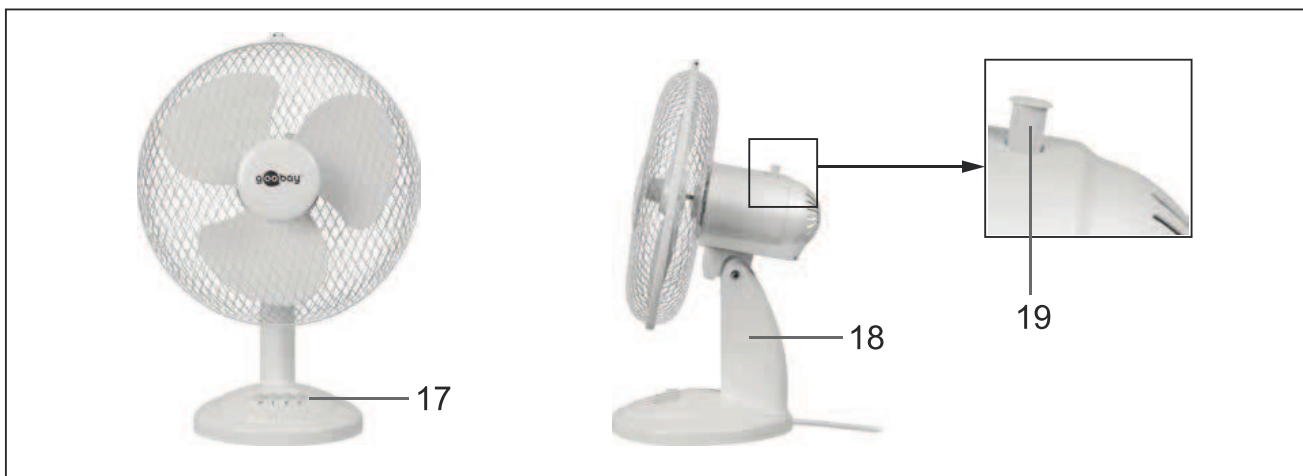

Fig. 18: Ready mounted table fan
1. Hold the fan only by the plinth (18, fig. 18) and place it on a dust-free, stable and horizontal surface.